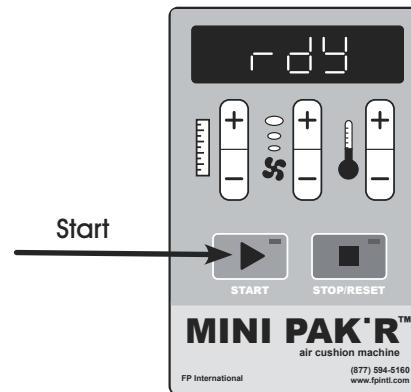

Figure 11
4. Press the **START** button again when green LED stops flashing and display reads "rdy." (See Figure 11)